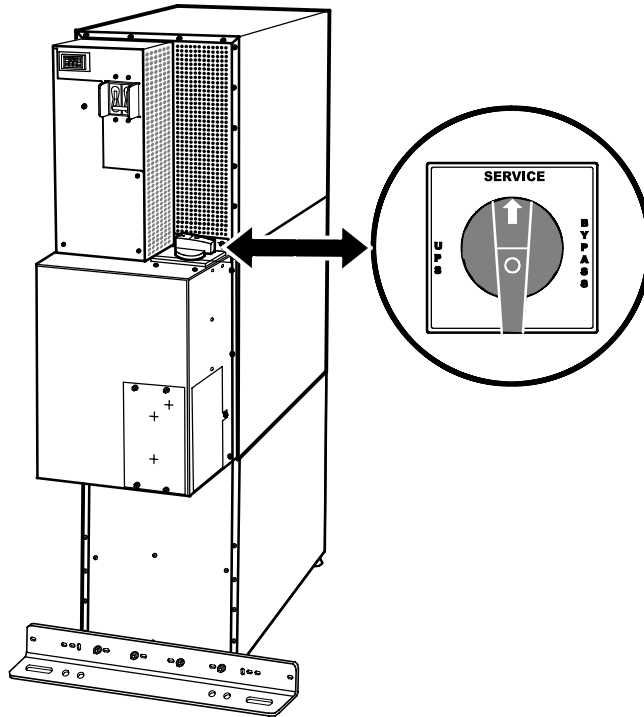

Figure 47. Maintenance Bypass Switch
1. Verify that the maintenance bypass switch is in the UPS position (see Figure 47 on page 81).
1. Verify that the maintenance bypass switch is in the BYPASS position (see Figure 47 on page 81).
The UPS maintenance bypass switch is located on the back of the UPS (see Figure 47).